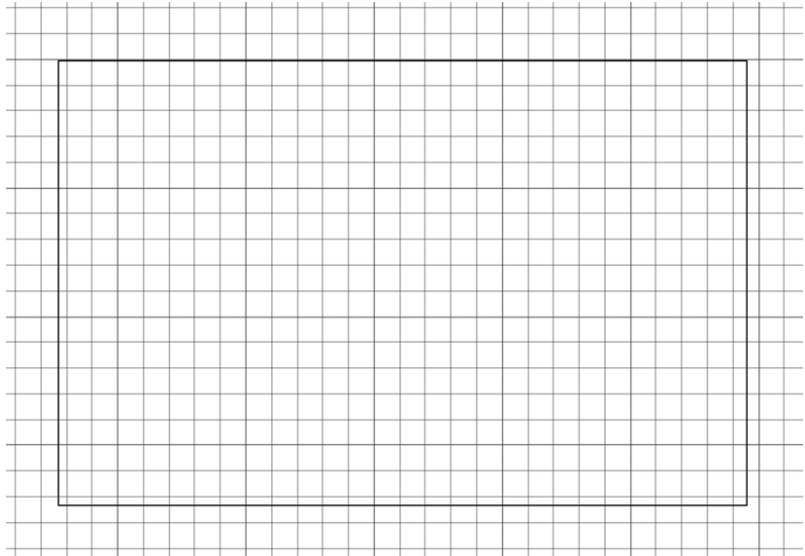

FIGURE 4.3: The cabin as you left it in Chapter 3
1. With AutoCAD running, choose Application menu > Open > Drawing. The Select File dialog box opens, where you can navigate to the I03A-FPLAY0.dwg (M03A-FPLAY0.dwg) file you saved at the end of Chapter 3. Click Open to display the cabin drawing shown in Figure 4.3.